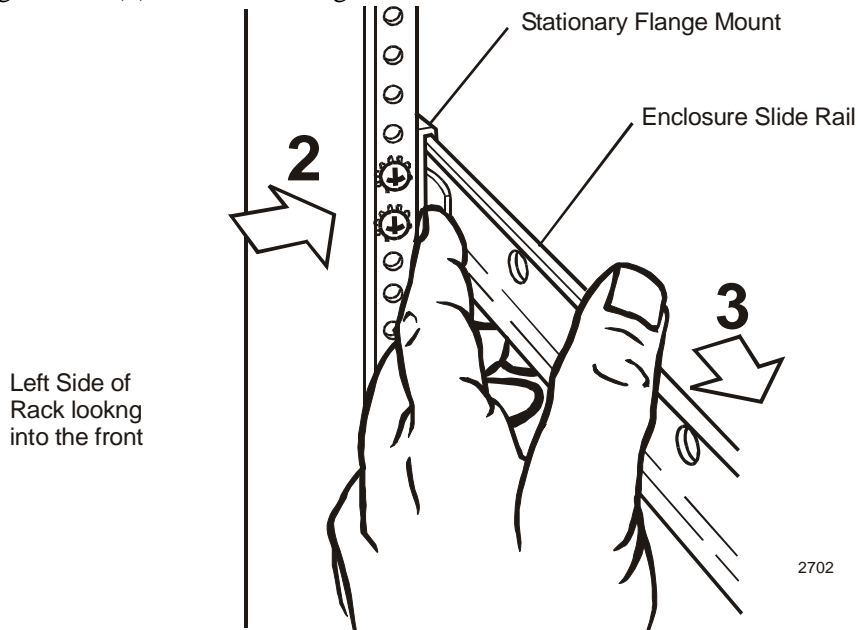

Figure 10. Removing Enclosure Slide Rail from Stationary Flange Mount
- Using caution, push the tab (2) and pull the slide rail completely out of the stationary flange mount (3), as shown in Figure 10.